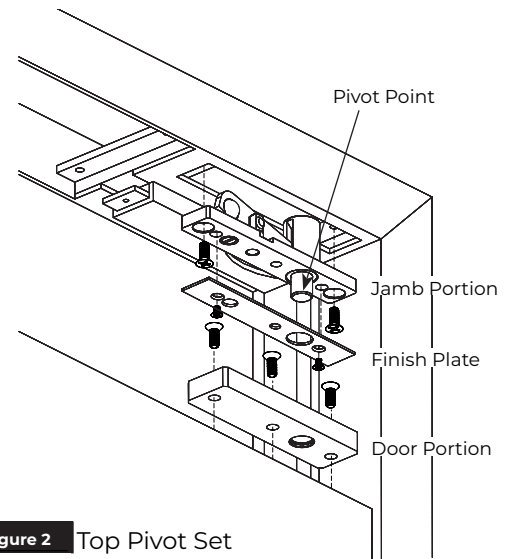

Figure 2 Top Pivot Set
1. Install jamb portion in prepared frame with two (2) 1/4-20 x 5/8" machine screws. (Figure 2)
2. Install door portion in prepared door with three (3) 1/4-20 x 5/8" machine screws or #14 x 1-1/2" wood screws. (Figure 2)
3. Attach finish plate to jamb portion with two (2) 8-32 x 1/4" machine screws. (Figure 2)